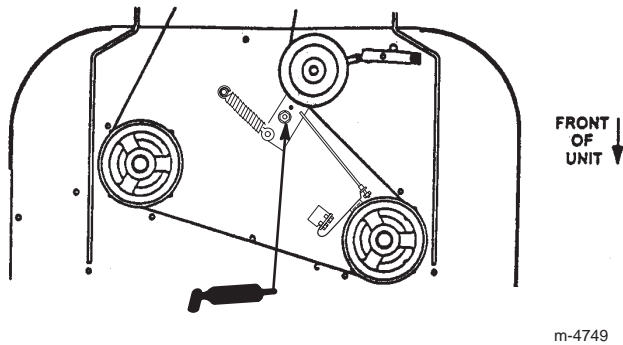

Figure 38
- Lubricate the blade belt idler arm pivot (Fig. 38) after every 50 operating hours.